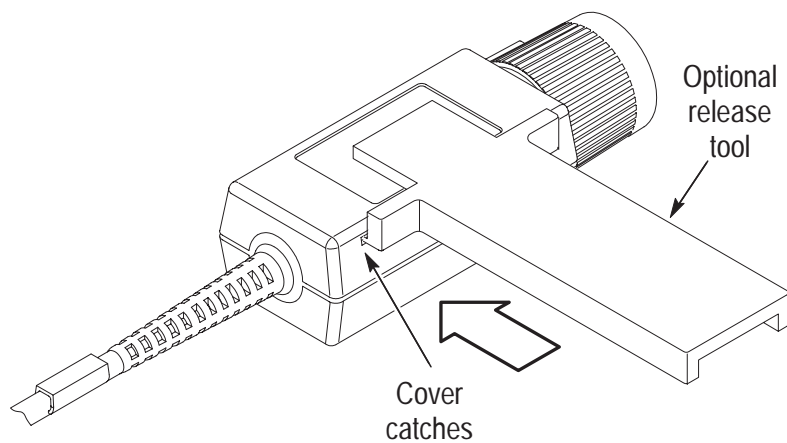

Figure 19: Removing the compensation box covers
1. Press the optional release tool pins into the compensation box cover catches and gently lift the cover off a small distance. Refer to Figure 19.